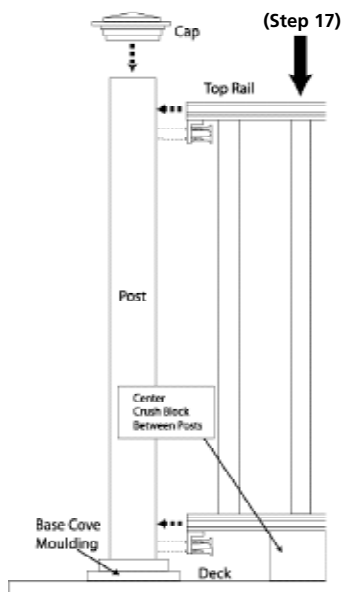

Figure 5
9. Ensure that the base cove moulding is in place at the bottom of the posts (Fig. 5).
10. Cut a crush block from an extra baluster to your desired length (min. 3" required length/height). Place the crush block on the deck surface midway between the posts (Fig. 5)
17. Once all balusters are inserted in the top rail, gently push downward on top rail to ensure full engagement of balusters in top and bottom rail. (Fig. 5).